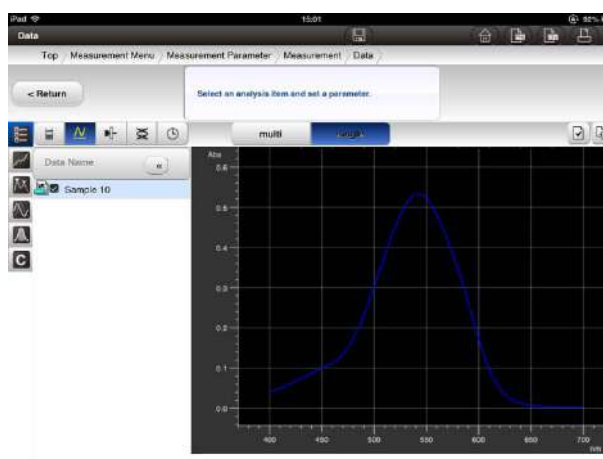

Fig. 4-136 Data Confirmation Window
- (1) Press  [Data button] and move to the data confirmation window (Fig. 4-136).